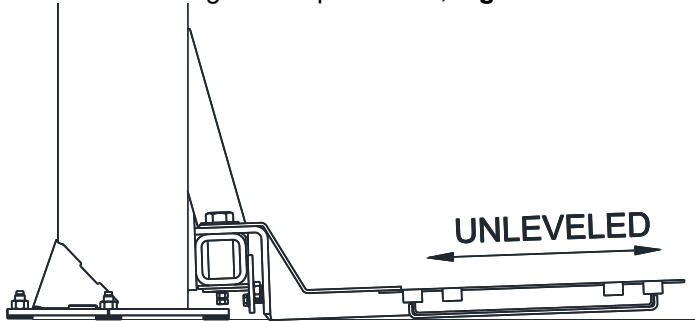

Fig. 8 LIFT ALLOWED TO LOWER TOO FAR
9. Once the proper sync cable adjustment is established, lower the lift to the floor noticing which point of each Pad Structure touches the floor first. When the lift is lowered further, the Pad can have the tendency to become unlevel – the carriage lowers, while the inside edge of the pad raises, **Fig. 8**.